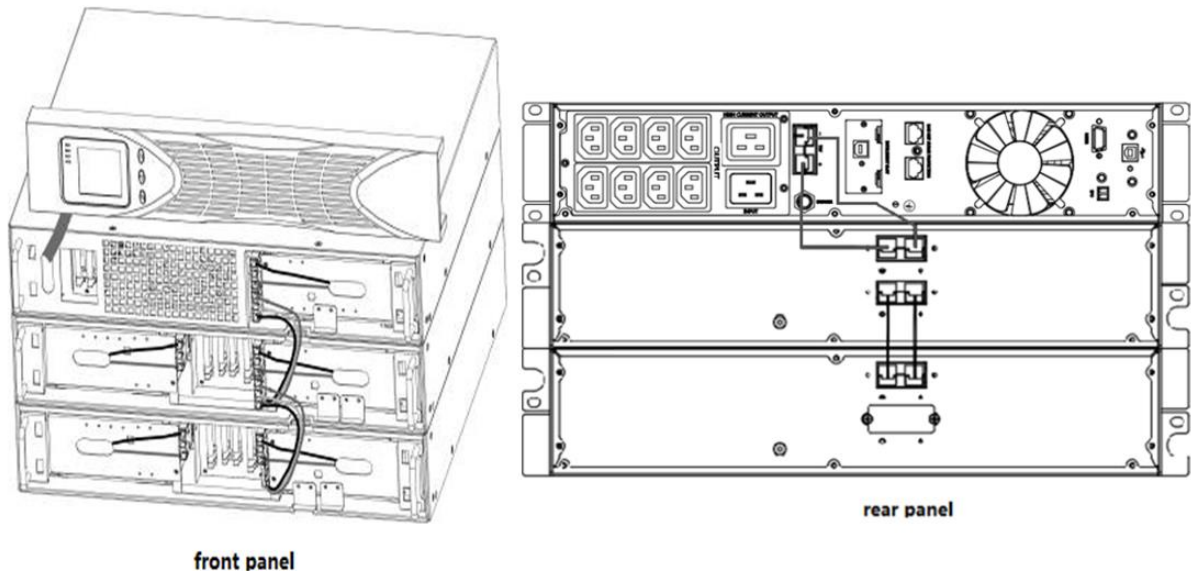

Figure 10 Typical EBP Installation
- c) For the bottom (or only) EBP, remove the EBP cable knockout on the top of the EBP front cover. See Figure 10 for the location of the top EBP cable knockout.
- d) If you are installing more than one EBP, for each additional EBP remove the EBP cable knockout on the top and bottom of the EBP front cover. See Figure 10 for the location of the EBP cable knockouts.
- e) Plug the EBP cable(s) into the battery connector(s) as shown in Figure 10. Up to four EBPs may be connected to the UPS. Connect black to black,. Press the connector tightly together to ensure a proper connection.